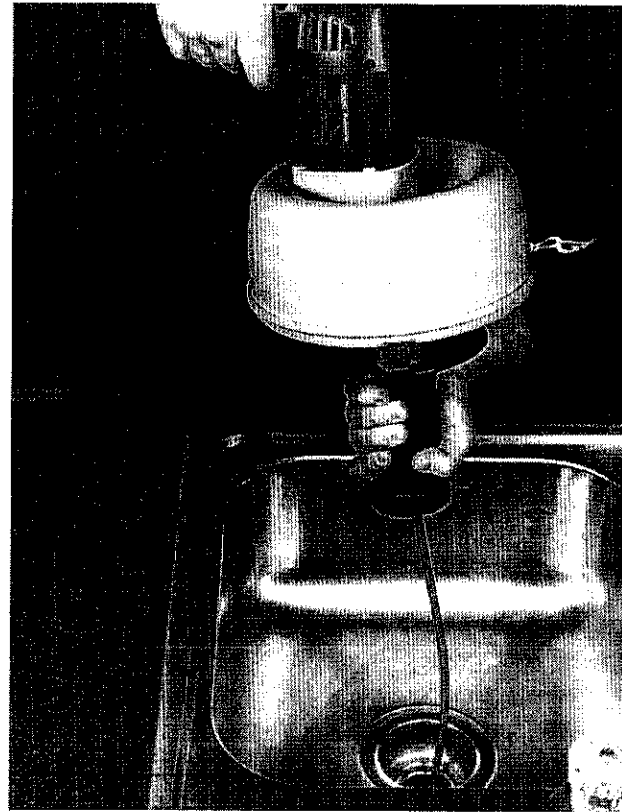

Figure 12. Pull handgrip forward to disengage clutch and draw additional cable from canister.
4. Pull handgrip forward to disengaged position. Draw an additional 10 to 12 inches of cable from the canister. (Fig. 12)